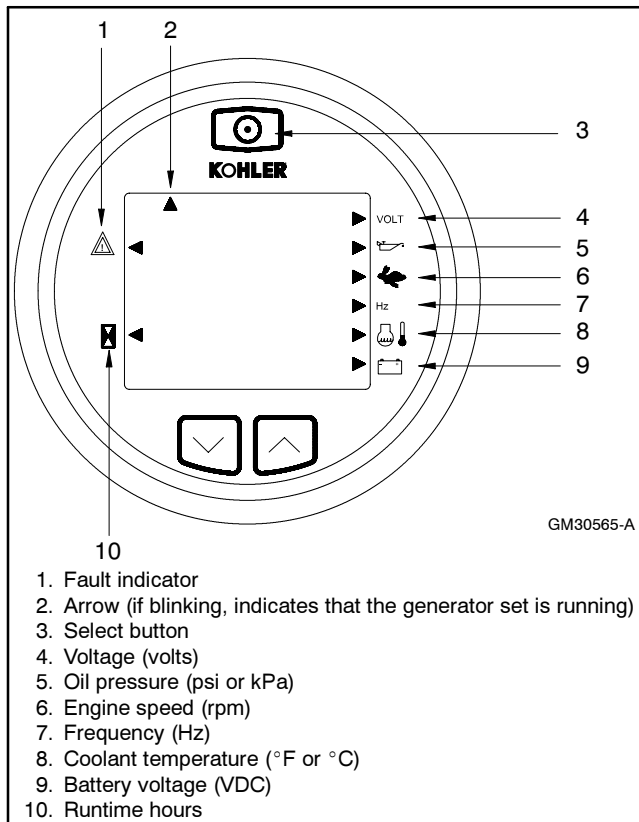

Figure 7 Remote Digital Gauge
Use the UP or DOWN arrow to scroll through the data. The corresponding illuminated arrow indicates which data is being monitored. See Figure 7. Any faults are displayed in blinking text. The following generator set data operation is displayed in this mode:
Note: The ADC master switch must be in the AUTO position for the remote start/stop. If the ADC master switch is in the RUN position, a remote stop command is not supported. The arrow, located at the top of the display, blinks to indicate that the generator set is running (see Figure 7, item 2).